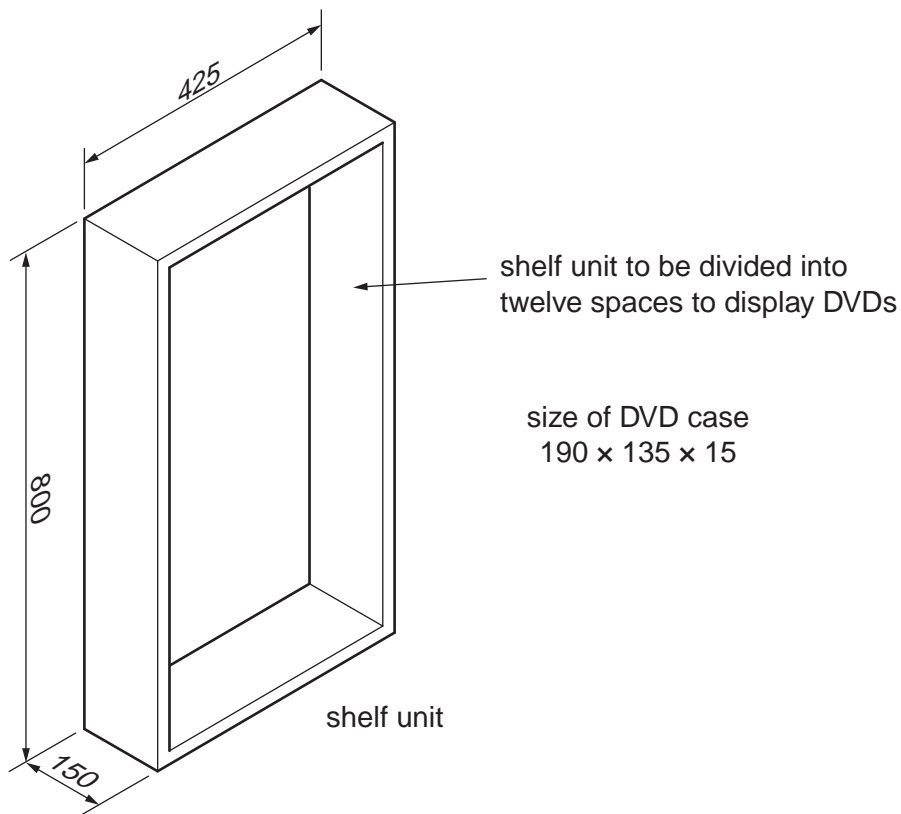

Fig. 8
- 8 Fig. 8 shows an incomplete idea for a free standing display stand to hold DVDs. The stand is manufactured in flat pack form from 5 mm thick corrugated cardboard.